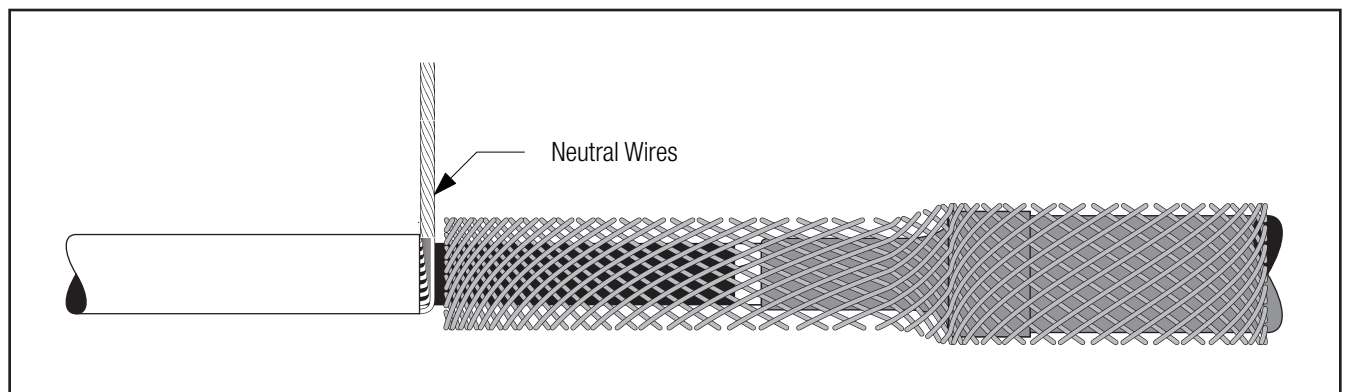

Figure 31
6.5.1 Connect shield sleeve to metallic (LC, etc.) shield first. Remove vinyl tape from neutral wires and route neutral wires upward next to end of cable jacket (or CN binder) (*Figure 31*).